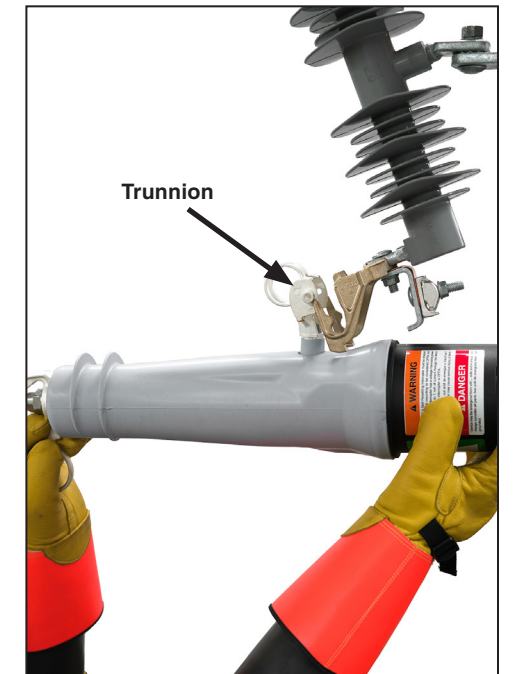

Figure 5. Guiding or removing the trunnion from the hinge using gloved hands.
STEP 2. Installation using insulated gloves: With the manual operating lever in the **Up** position, insert the VacuFuse II interrupter into the proper cutout mounting with gloved hands, as shown in Figure 5 on page 2.
- STEP 3. Removal using gloved hands:** Remove the VacuFuse II interrupter from its mounting with gloved hands, as shown in Figure 5.